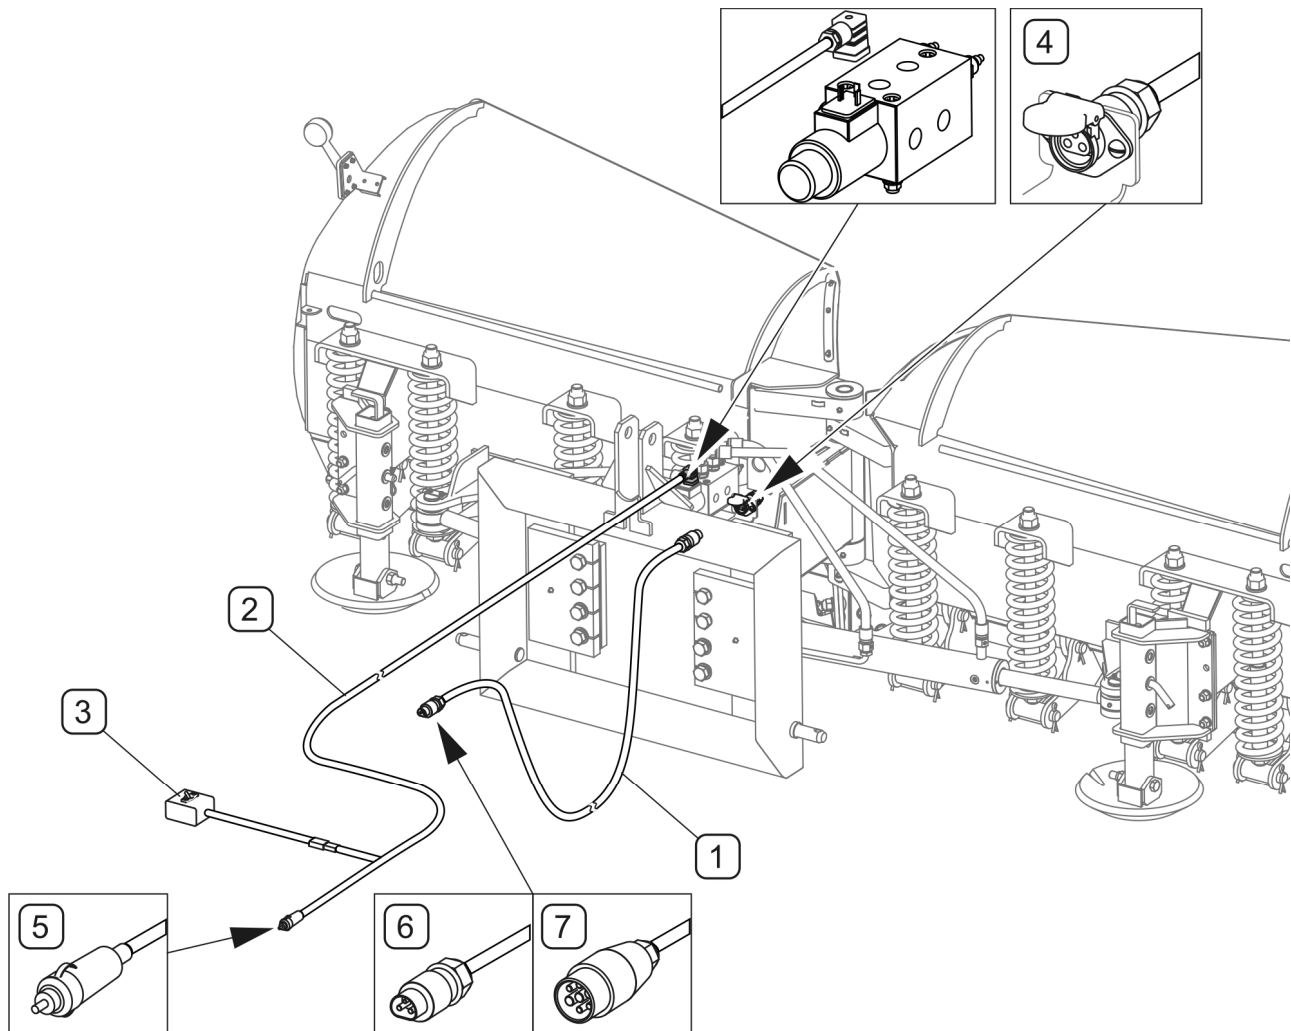

FIGURE 4.3 Connecting the electrical system
(1) - power lead of lighting system; (2) - control lead of hydraulic solenoid valve; (3) - solenoid valve control switch; (4) - 3-pin socket; (5) - cigarette lighter plug; (6) - 3-pin plug; (7) - 7-pin plug (option)
Connect power lead of lighting system (1) (FIGURE 4.3), ended with 3-pin plug (6) to 3-pin socket (4) on the snow plough frame and connect the other end of the lead to 3-pin socket in the carrying vehicle (or to optional 7-pin socket). Connect lead (2) to the snow plough's solenoid valve and to the cigarette lighter socket in the carrying vehicle. Place the switch (3) in an accessible place in the operator cab.